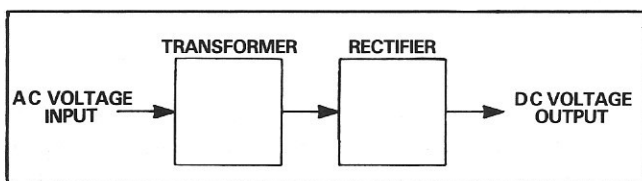

Figure 11. Simplified Block Diagram.
This is a two-step process. First, the 120 or 240 volt AC power is lowered to match the boat's DC voltage (typically 12, 24 or 32 volts). This is accomplished by a device called a transformer. Second, the reduced alternating current (AC) must be converted to direct current (DC). This is done by a device called a rectifier. See Figure 11.